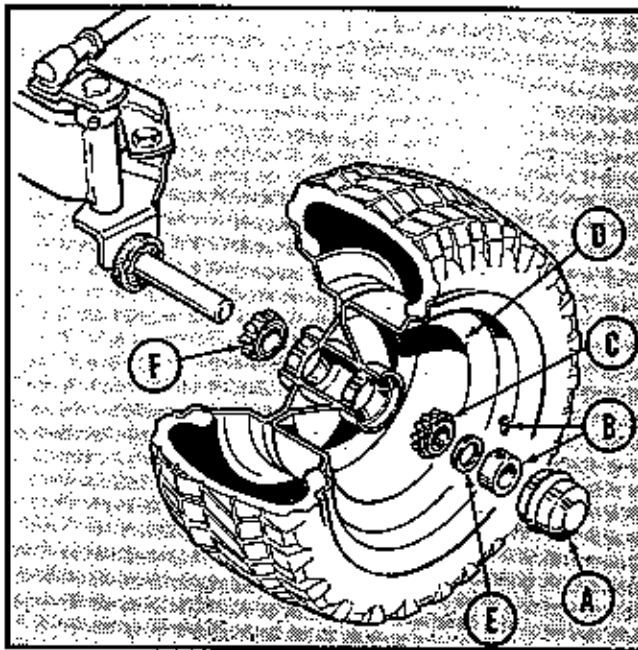

Figure 33. Left front soindle and axle assembly.
2. See figure 33. Remove the grease cup (A) by prying off with a screwdriver or claw hammer.
3. Use an Allen wrench to loosen the set screw in collar (B).
4. Remove the set collar (B), spacer (E), outer bearing (C), wheel (D), and inner bearing (F). It is best to keep the two bearings separate so you can put them back in their original place. Wash the bearing shaft, bearings, and wheel housing with a suitable solvent and wipe dry. Inspect the seal of the inner wheel. Replace it if it is damaged. **NOTE: IT IS EXTREMELY IMPORTANT THAT THE BEARINGS AND GREASE THAT IS PACKED IN THEM BE KEPT CLEAN.**